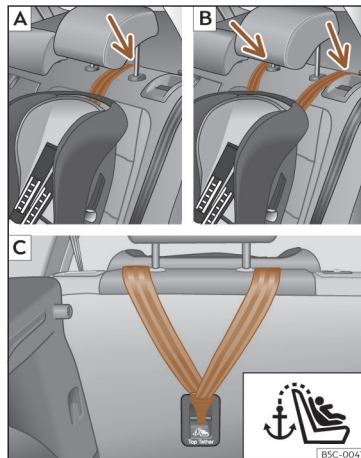
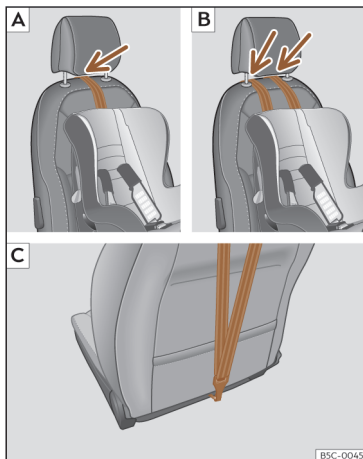

Fig. 33 Rear seats: adjustment and assembly according to the Top Tether belt.
Fig. 34 Front passenger seat: adjustment and assembly according to the Top Tether belt.
- Position the belt under the headrest (depending on the instructions of the seat itself, lift or remove the headrest if necessary) >>> Fig. 33 [A]/[B], >>> Fig. 34 [A]/[B].
- Slide the strap and secure it properly with the anchorage of the backrest >>> Fig. 33 [C], >>> Fig. 34 [C].